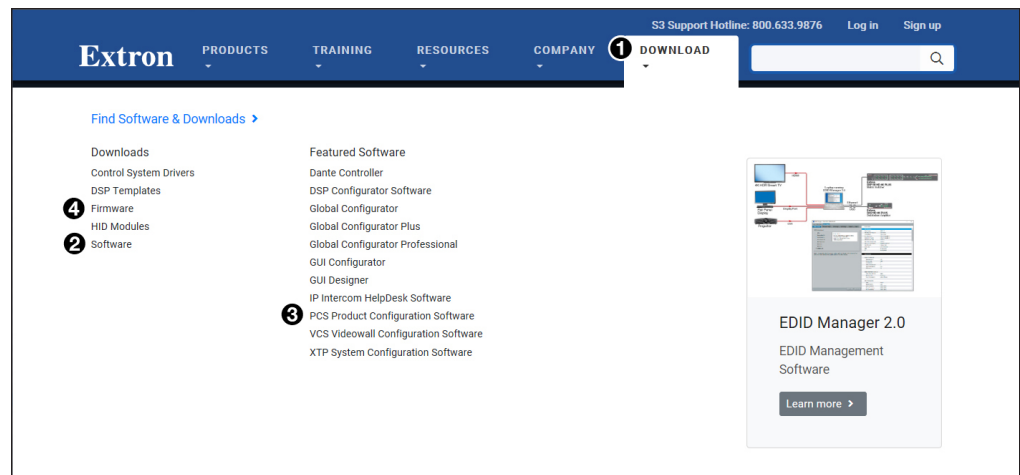

Figure 10. Software Links on Download Screen
3. If there is no direct link to your software, click the **Software** link (②).
4. Scroll down to the alphabetic navigation bar (see figure 10).